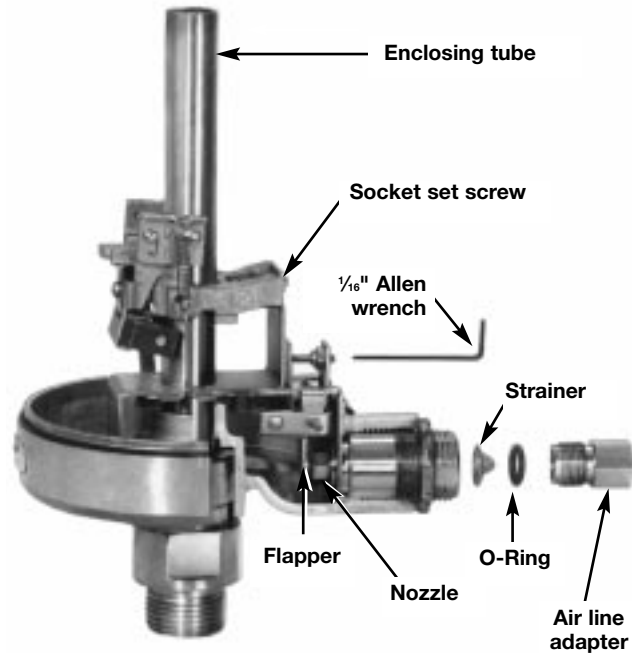

Figure 6
1. Unscrew and remove the adapter. Refer to Figure 6.
5. Reassemble the O-ring, strainer, and air line adapter; insert into nozzle. Refer to Figure 6.